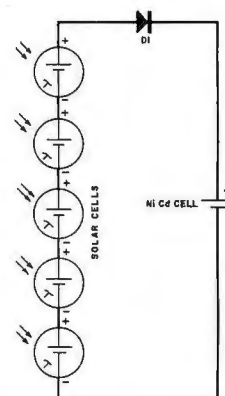

Fig. 2. Simple charging circuit.
**Building Practical Solar Cell Arrays.** Figure 2 shows how a silicon